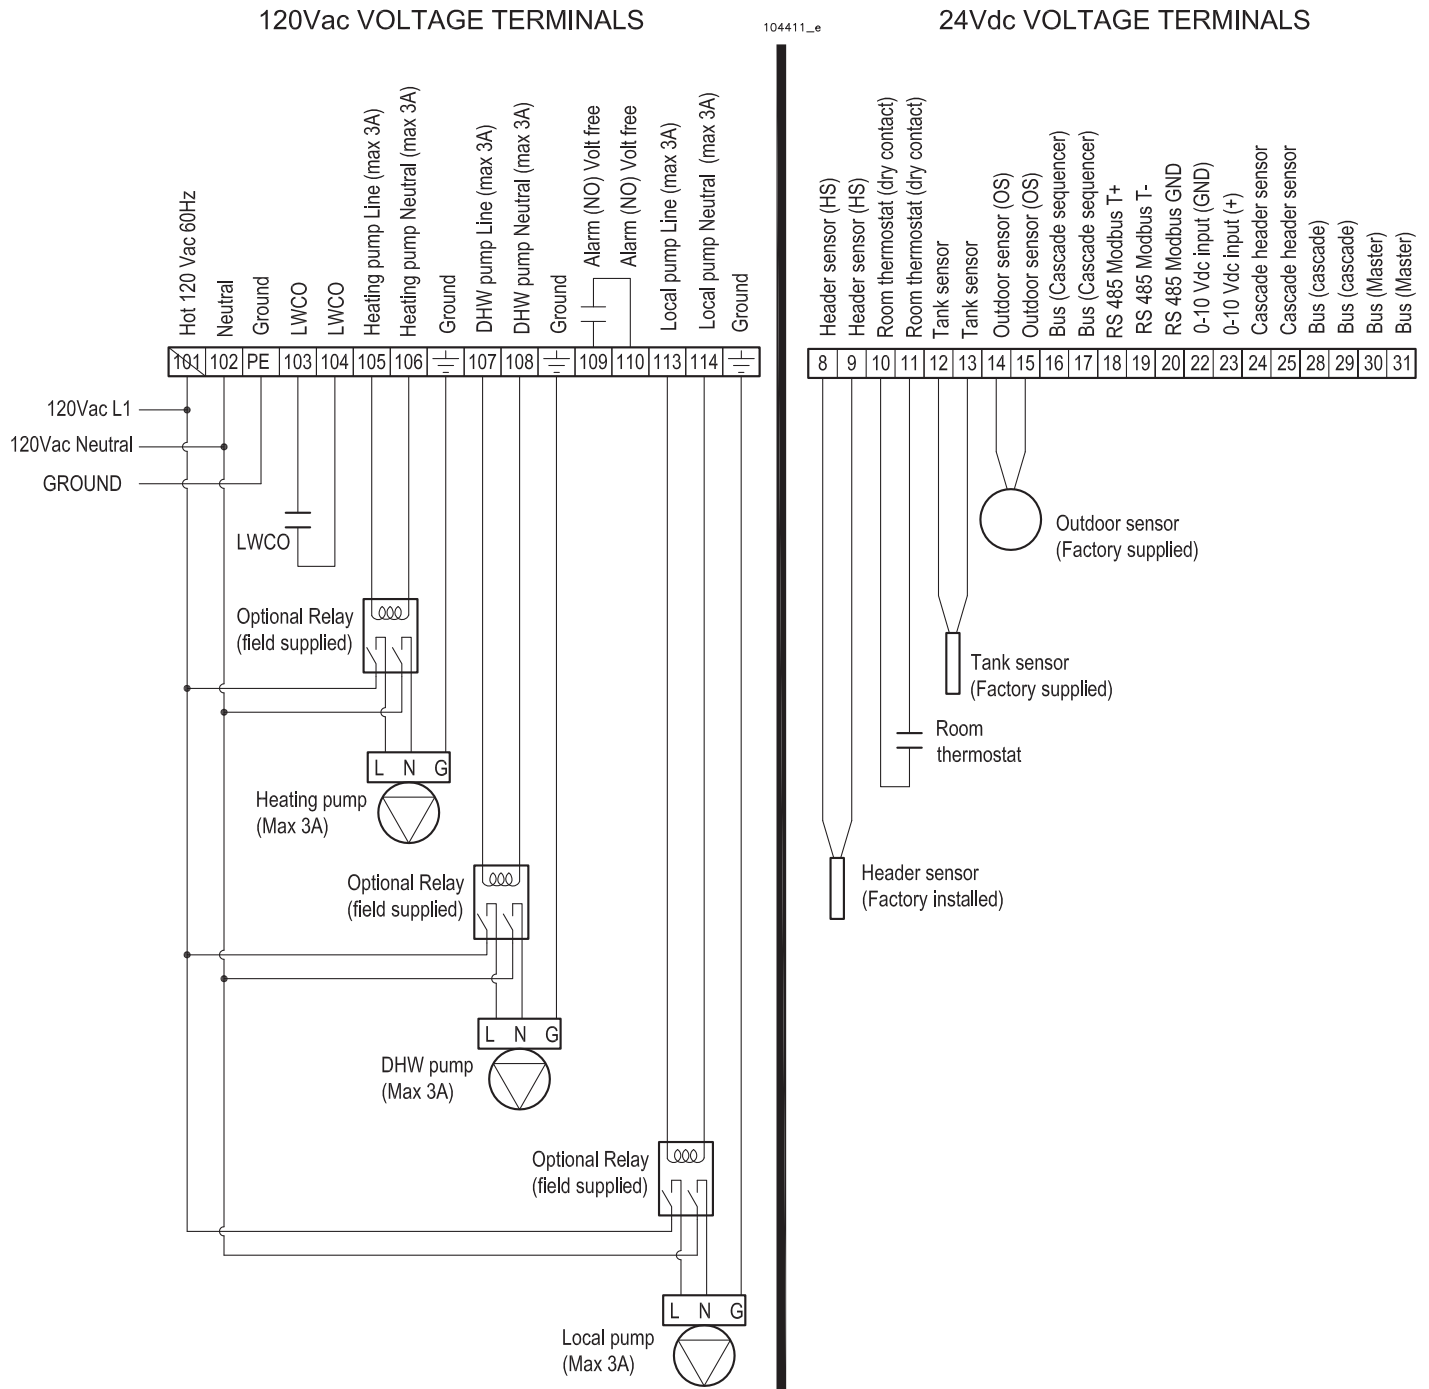

Figure 9-4 Electrical connections
- 3.- Connect the cable leads to the "10" and "11" terminals as shown in Figure 9-4.
upper half of the second floor. Do not install the sensor above doors, windows or ventilation outlets nor directly under balconies or gutter pipes. Do not shield the outdoor temperature sensor. Do not install the sensor on walls without overhangs, or not protected from rain. Connect the outdoor temperature sensor to the appliance to terminals "14" and "15" (See Figure 9-4):
On appliances model 399, 500, 750 and 1000 it is factory supplied the 885IF board that permit installer to drive the unit via a Vcc input. To do this, you have to connect the Vcc supply between terminals 22 and 23 (see Figures 9-4). Also, the CH mode (parameter 2003 as per Section 15.13) must be set to 4 value. Now the appliance can start to receive
- 2.- The indirect water heater pump (DHW pump) must be connected to terminals “107” and “108” (See Figure 9-4); a field supplied pump relay must be installed if the pump current draw is greater than 3 amps as indicated in Figure 9-4;
- 3.- The indirect water heater temperature sensor (Tank sensor) must be connected to terminals “12” and “13” (See Figure 9-4).